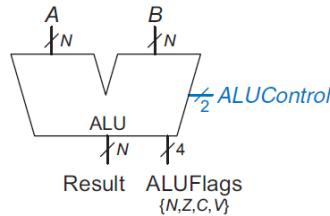
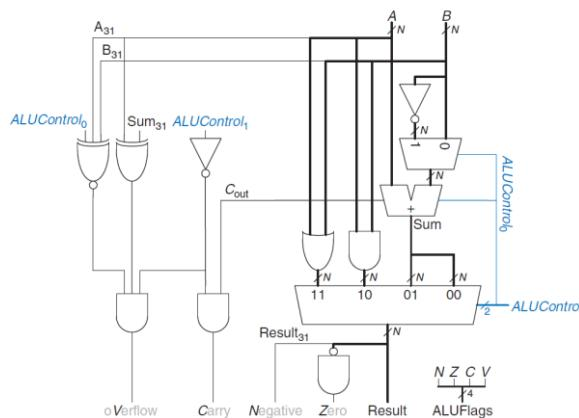

Figure 5.17 ALU symbol with output flags
Figure 5.18 N -bit ALU with output flags
Some ALUs produce extra outputs, called *flags*, that indicate information about the ALU output. Figure 5.17 shows the ALU symbol with a 4-bit *ALUFlags* output. As shown in the schematic of this ALU in Figure 5.18, the *ALUFlags* output is composed of the *N*, *Z*, *C*, and *V* flags that indicate, respectively, that the ALU output is **negative** or **zero** or that the adder produced a **carry out** or **overflowed**. Recall that the most significant bit of a two's complement number is 1 if it is negative and 0 otherwise. The *Z* flag is asserted when all of the bits of *Result* are 0. The *C* flag is asserted when the adder produces a carry out *and* the ALU is performing addition **or** subtraction. *V* (**signed** overflow) is asserted when **all** three of the following conditions are **true**: (1) the ALU is performing addition **or** subtraction, (2) *A* and *Sum* have **opposite** signs, (3) either *A* and *B* have the same sign and the adder is performing **addition** or *A* and *B* have opposite signs and the adder is performing **subtraction**.